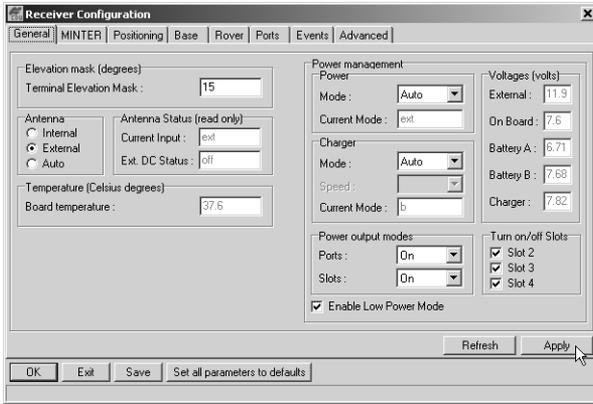

Figure 3-5. Select External Antenna Option
4. On the General tab, select the External Antenna option (Figure 3-5 on page 3-9).